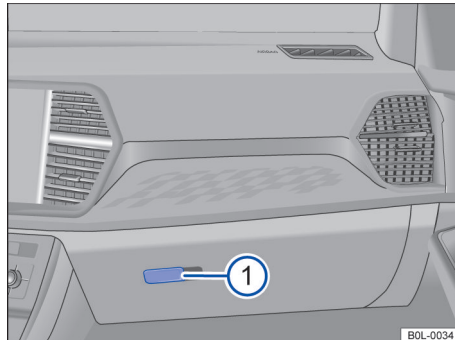

Fig. 103 On the front passenger side: stowage compartment
Open: Pull the release handle → Fig. 103**①**.